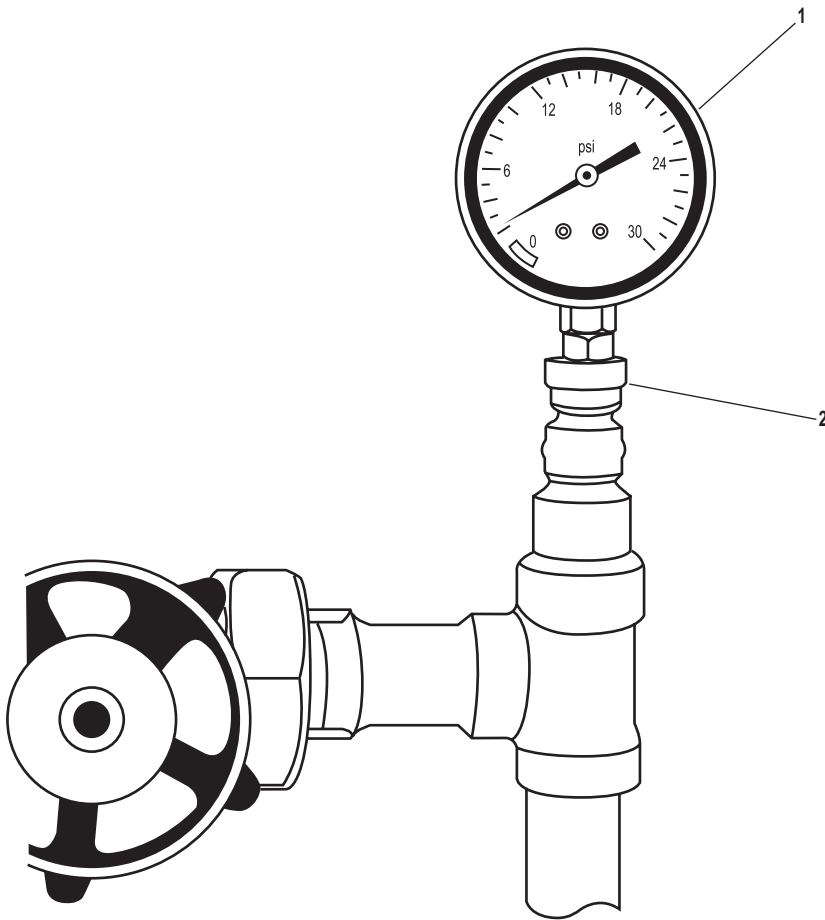

Figure 1. Low Pressure Air Pressure Gauge
1. Use a wrench to loosen and remove the gauge (figure 1, item 1) at the fitting (figure 1, item 2).
2. Cover or plug the remaining open pipe fitting (figure 1, item 2) to prevent contamination from entering the Marine Sanitation Device (MSD) piping.
1. Clean the male threads of the pressure gauge (figure 1, item 1) with a wire brush.
2. Apply antiseizing tape to the male threads of the pressure gauge (figure 1, item 1).
3. Remove the cover or plug from the MSD open pipe fitting (figure 1, item 2).
4. Install the pressure gauge (figure 1, item 1) into the pipe fitting (figure 1, item 2).